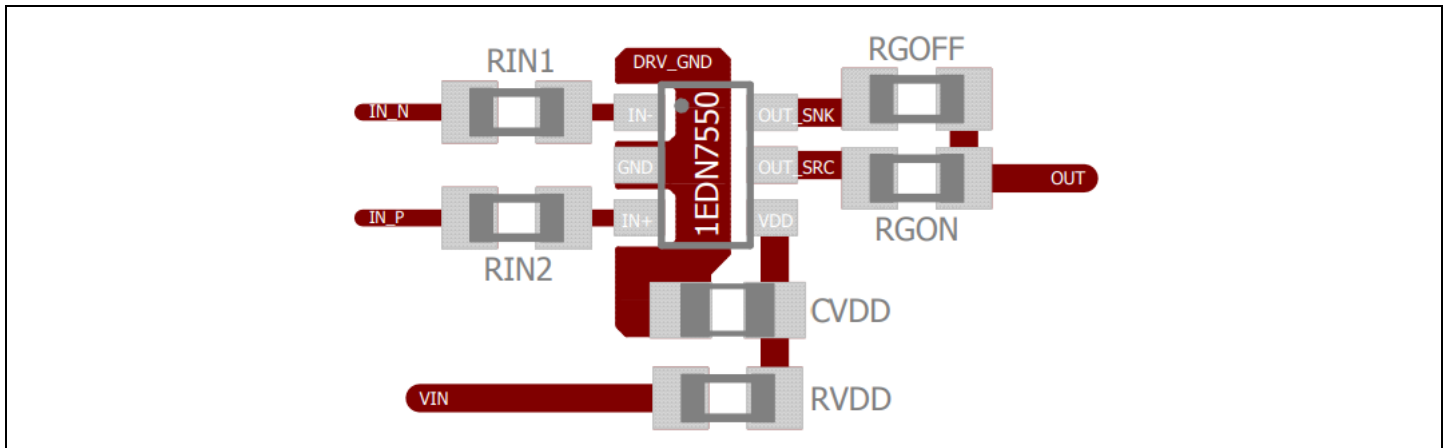
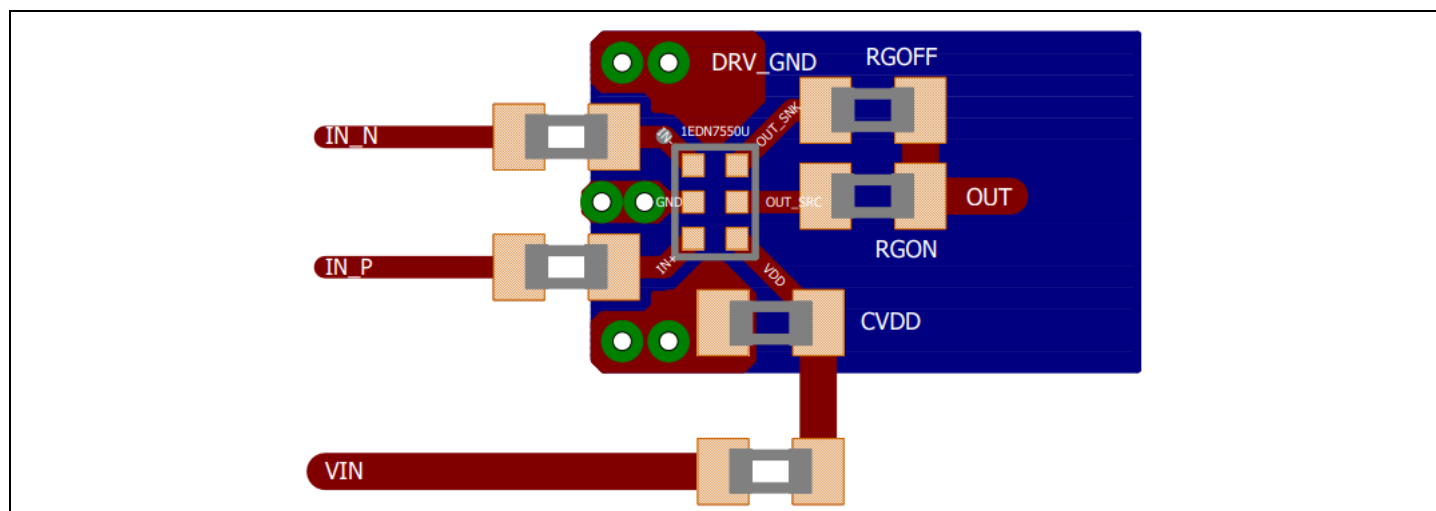

Figure 12 Layout recommendation for SOT23-6 package
Figure 14 Layout recommendation for TSNP-6 package with SMD resistor 0402
A layout recommendation for the input path of the SOT23-6 package version is given in Figure 12.
For applications that do not require the maximum CMR an even more compact layout utilizing resistors of form factor 0402 is shown in Figure 14.
• Corrected typo in Table 4 VESD_CDM • To match pin configurations in Figure 2 update of Figure 1 as well as in Chapter 5 the Figure 9 to former Figure: 1EDNx550 as a high-side driver in former Chapter: High-side switches • Updated diagram according to number of OUT pins → OUTx, Figure 7 • CLoad → CL for Fig 12 and Fig 14 • Updated to latest package diagrams, Chapter 8